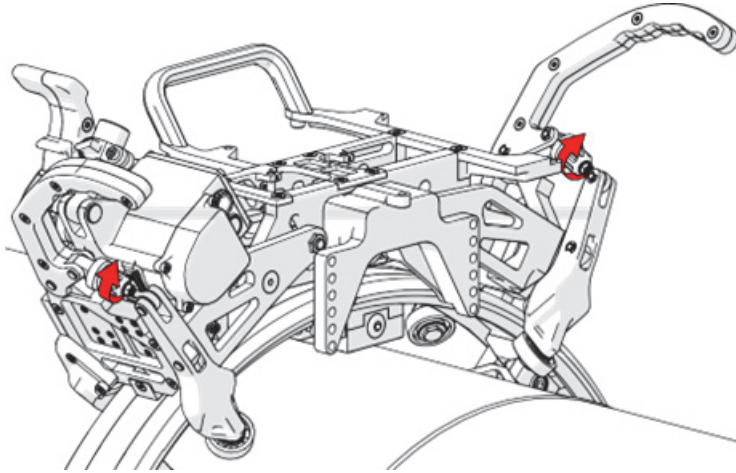

Figure 1-38 Tightening the clamp adjusters 1/4 turn
9. Tighten each clamp adjuster by 1/4 turn (see Figure 1-38 on page 53).